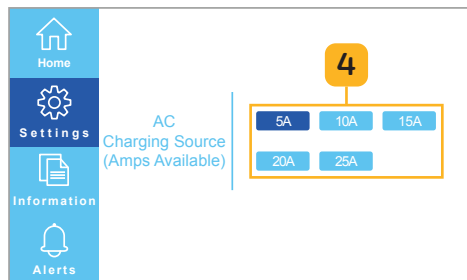

Fig. 6.13 Select maximum AC power
4. Select the available amperage of your **AC Charging Source** (Fig. 6.13).